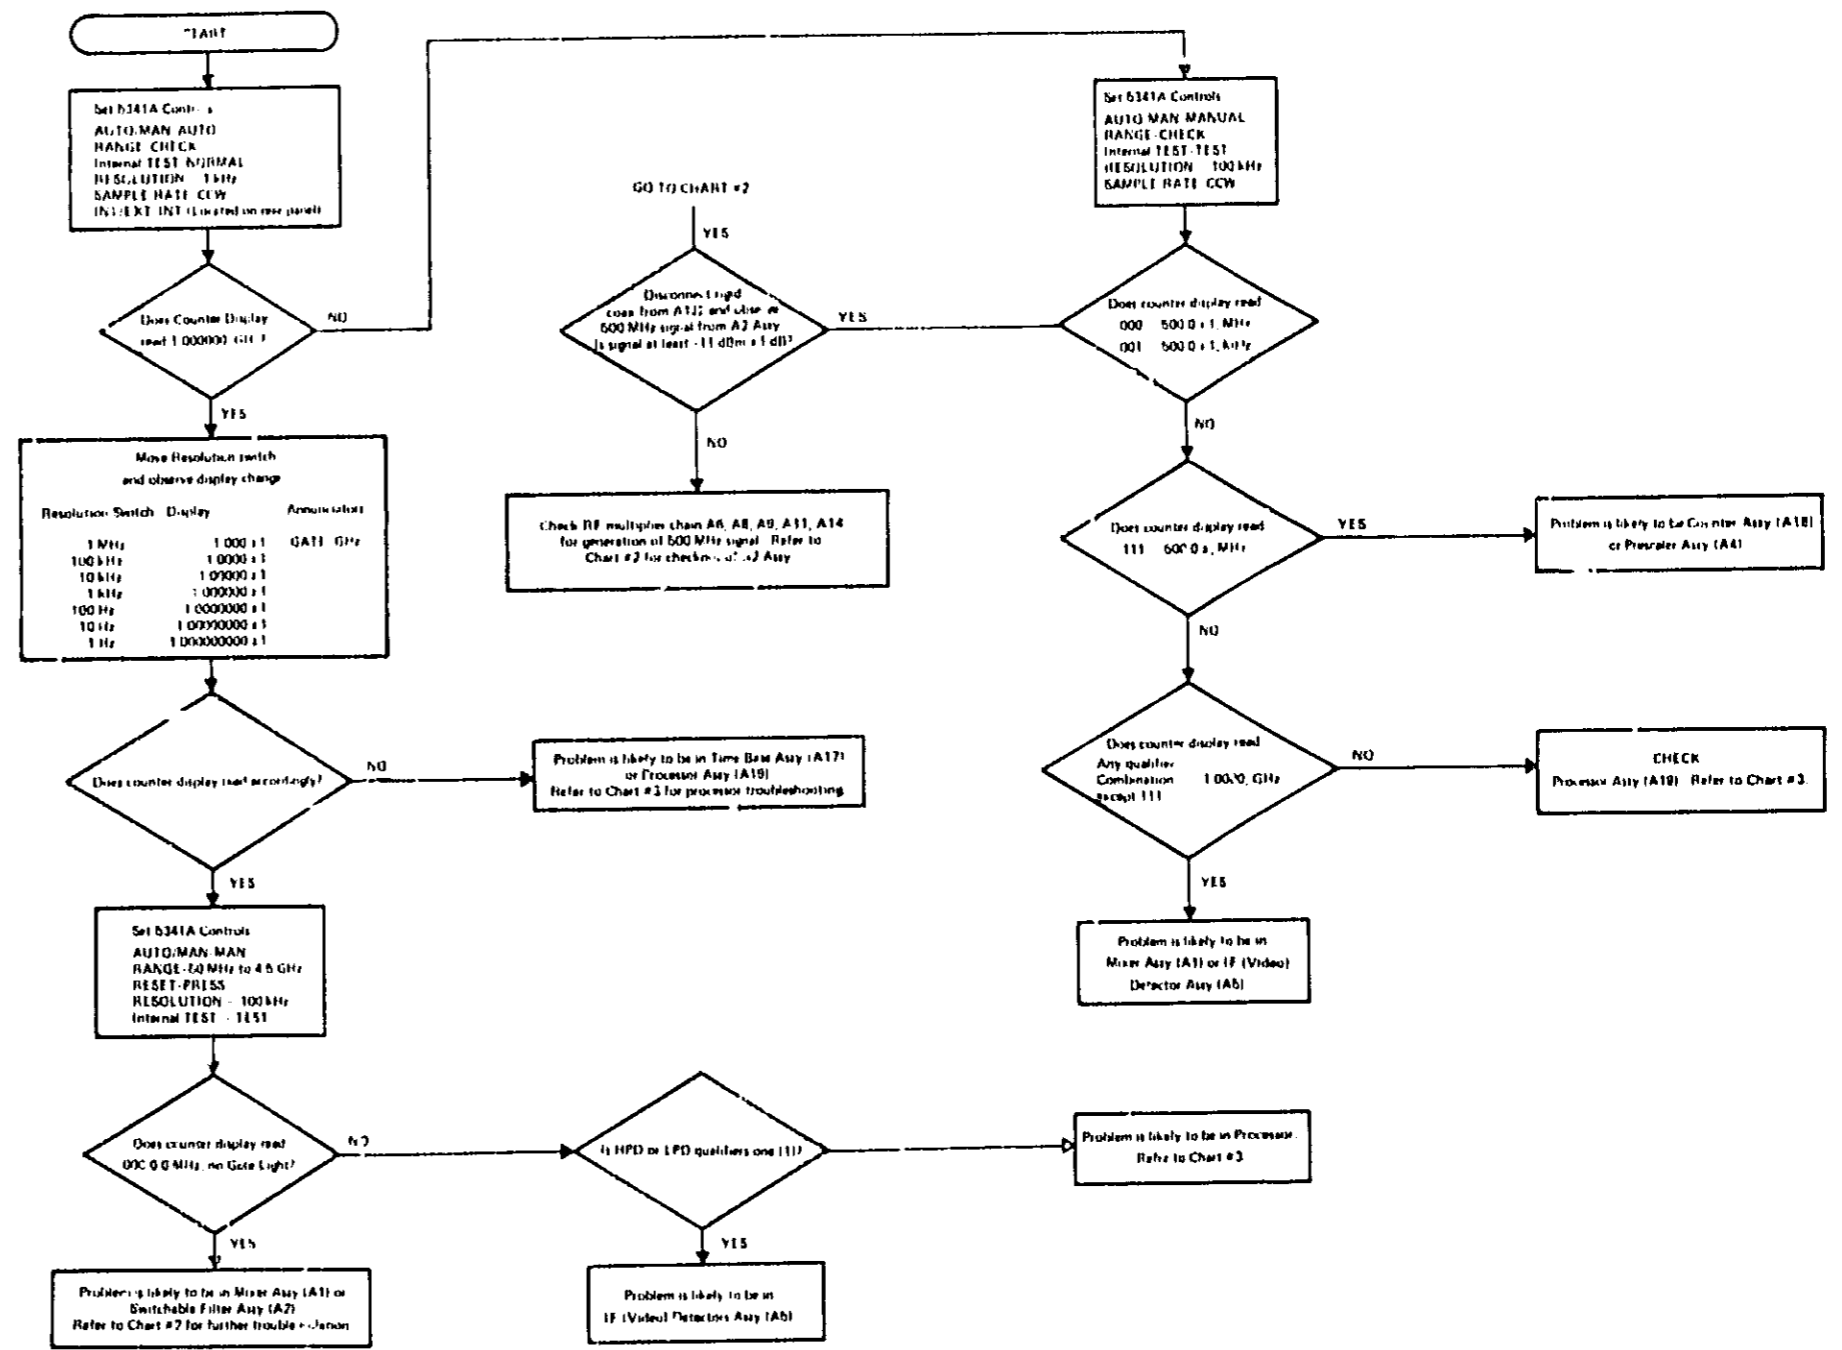

Figure 5-1. Overall Troubleshooting Chart 1
5-38. Troubleshooting consists of an overall trouble isolation chart shown in *Figure 5-1*. *Figure 5-2* covers trouble isolation of the Mixer and Switchable Filter assemblies. *Figure 5-3* covers troubleshooting of the processor A19. For instruments equipped with Option 011 Remote Programming, refer to *Figure 5-4*. *Figure 5-5* is a step-by-step checkout of Option 011 using an HP Model K08-59992A Bus exerciser.
- a. Use *Figure 5-1* (Chart 1) for trouble isolation to the board level. Chart 1 recommends repair or gives directions to use Charts 2 or 3.